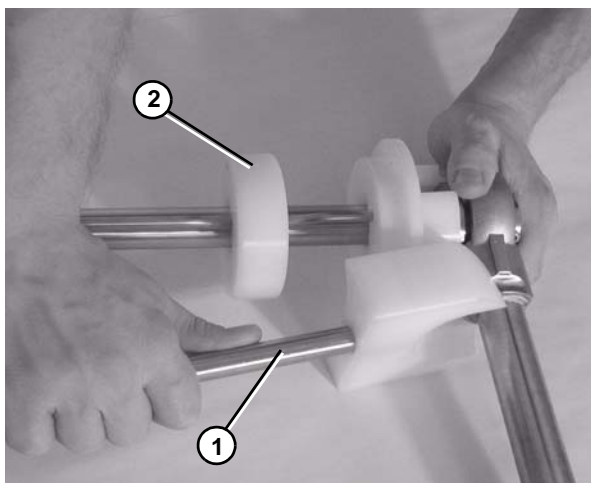

Figure 64
- Remove the guard bar (**Figure 64, item 1**).
- Remove the pucks (**Figure 64, item 2**).